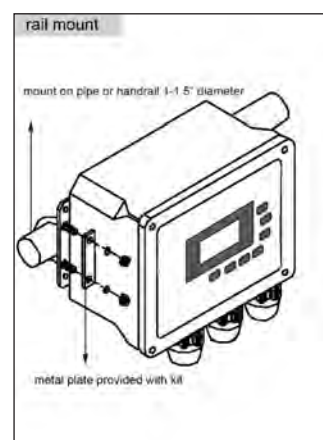

Figure 3.3
4. Place the u-bolts around the rail securing the 5400 to the pipe or rail by feeding through the pre-drilled holes on the mounting brackets as shown in figure 3.3.